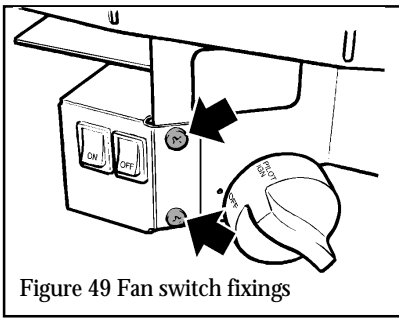

Figure 49 Fan switch fixings
- 16.5.6** To gain access to the pilot pipe connection, detach the fan switch bracket from the burner control bracket by removing two screws (see figure 49).
- 16.8.1** Detach the fan switch bracket from the burner control bracket by removing two screws (see figure 49). Carefully pull clear of the burner unit.